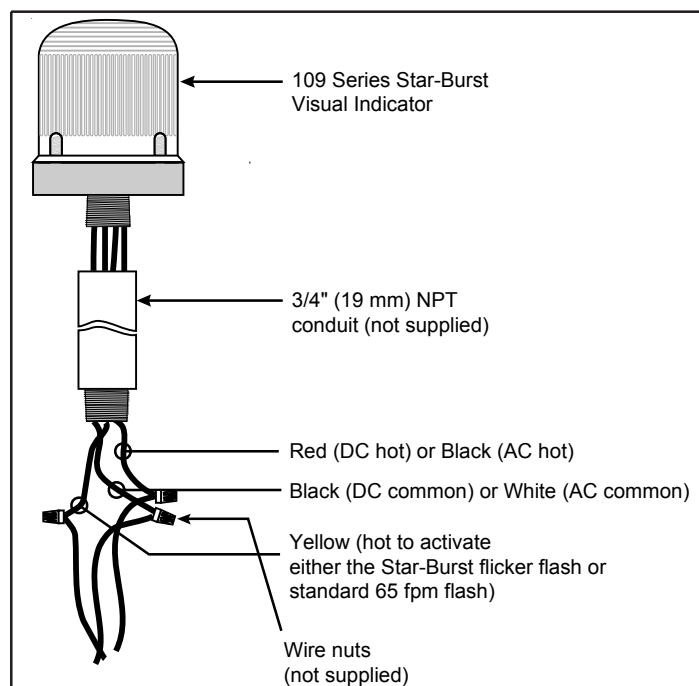

Figure 1. Conduit Mounting (3/4" Shown)
#### Conduit Mounting (Figure 1)
2. Using wire nuts (not supplied), connect the signal's wire leads as shown in Figure 1. Polarity must be observed on DC models.
3. Using wire nuts (not supplied), connect the signal's wire leads as shown in Figure 1 or 2. Polarity must be observed on DC models.
1. **Conduit Mounted Modules:** Disconnect wiring and, if necessary, unscrew base from conduit (Figure 1).